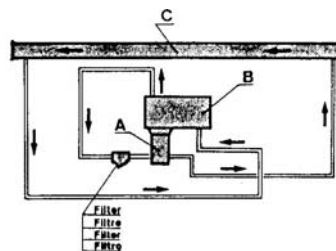

Fig 16
The cooling and the lubricating of the lever change gearbox are ensured by a hydraulic system (see fig.16) Oil is sucked from the gearbox (B) through the oil filter and pumped into the front tube (C) before coming back into the gearbox (B). It is necessary to clean the filter every time that the indicator is on the red area.